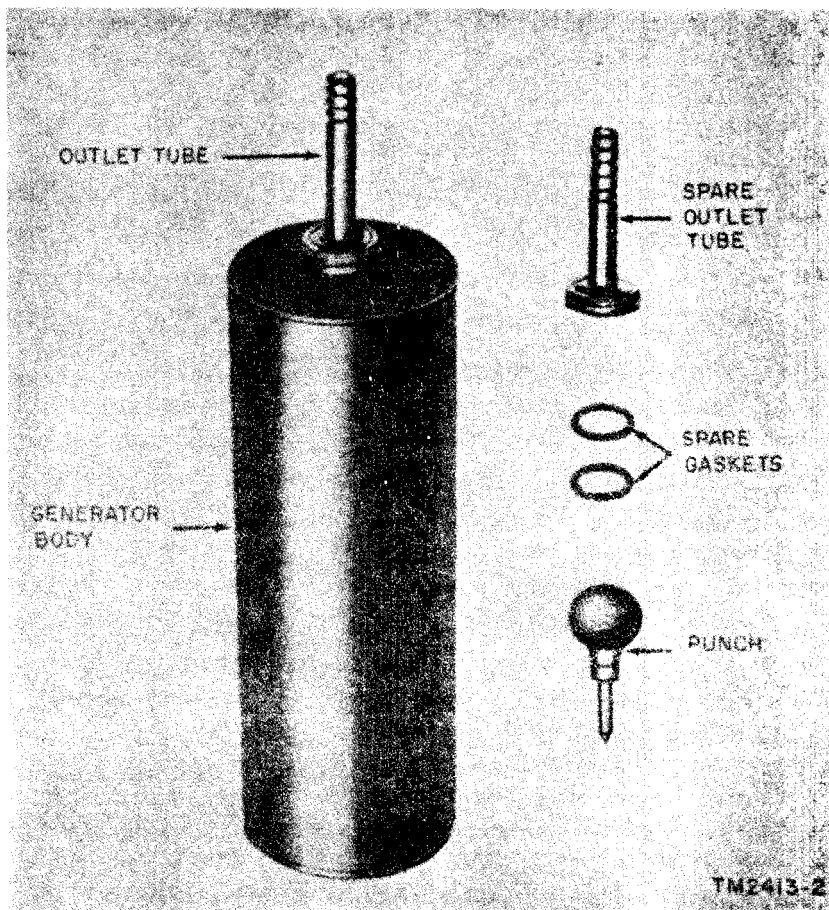
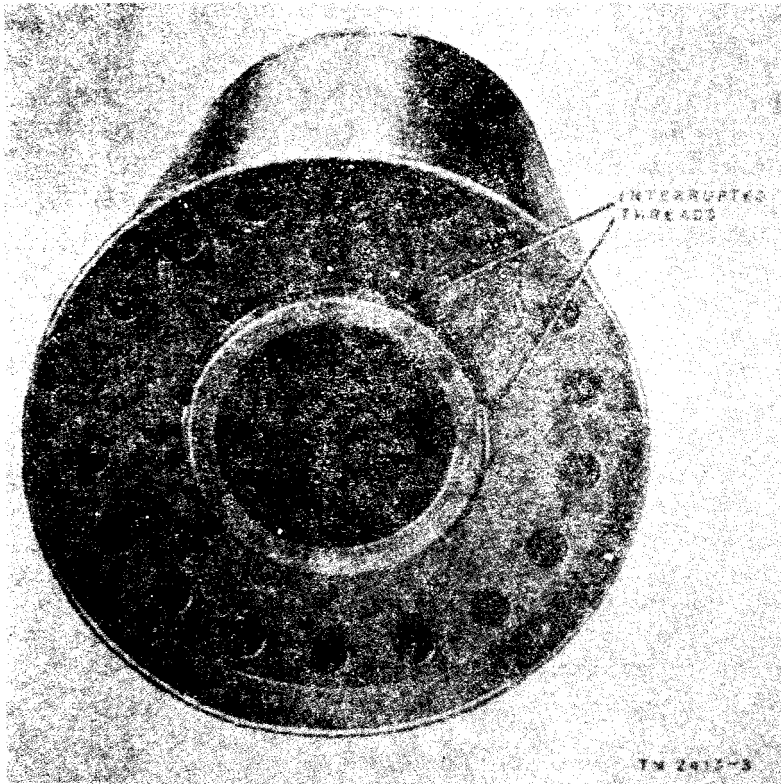

Figure 2. Hydrogen Generator ML-303/TM.
Figure 3. Generator body, bottom view.
Hydrogen Generator ML-303/TM is shown in figure 2. The generator body is a cylindrical steel can. The outlet tube has a screw cap for attaching it to the generator body, and a corrugated stem to which Hose ML-81 may be attached. The bottom of the can (fig. 3) is recessed and has a protruding center with interrupter threads for attaching the chemical charge. The bottom of the can also has a number of holes to allow water to enter the generator body.
- (5) Attach one end of the long length of Hose ML-81 to the outlet tube on the generator body.
- (6) Select the proper calcium hydride charge (par. 9a).
- (7) Follow the procedure given below to open the knockouts on the top of the calcium hydride charge can.
- (8) Attach the calcium hydride charge can to the bottom of the generator body by engaging the interrupted threads (figs. 3 and 5) and then rotating the charge can a short turn.